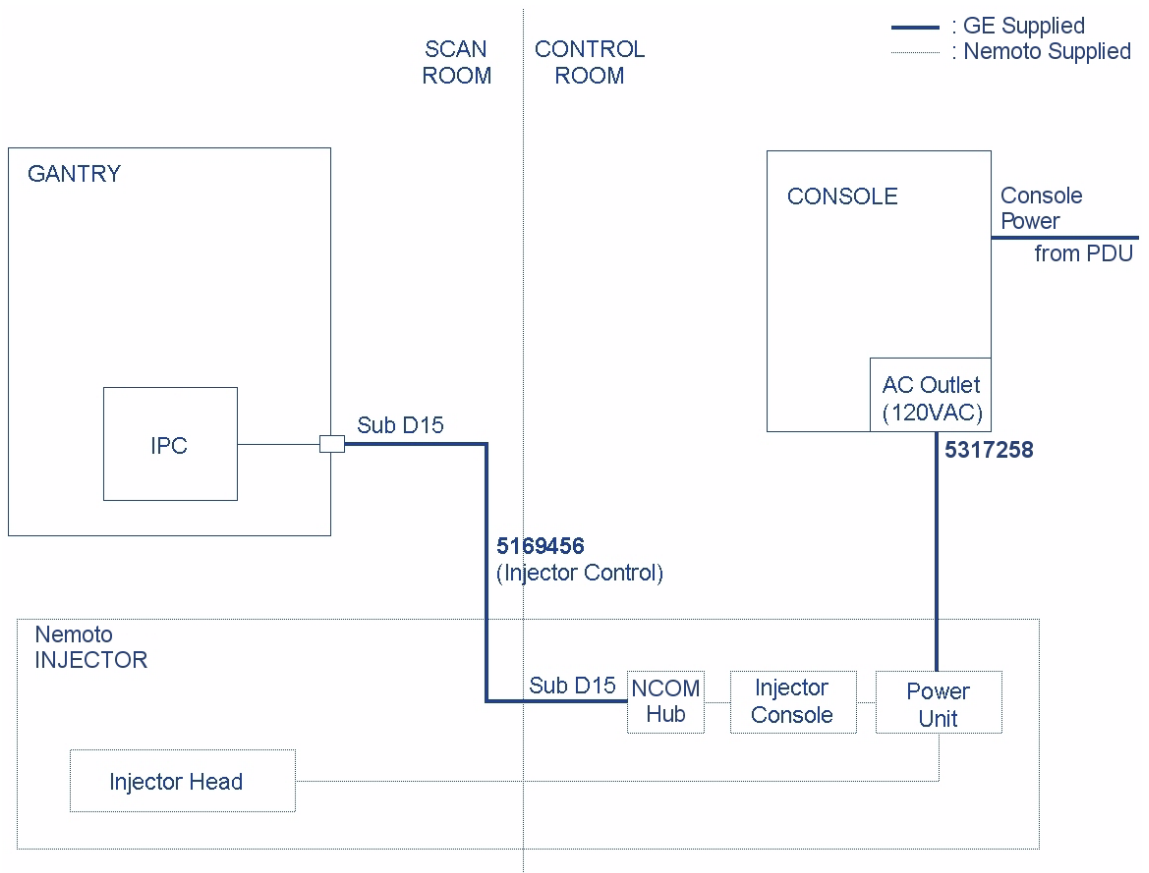
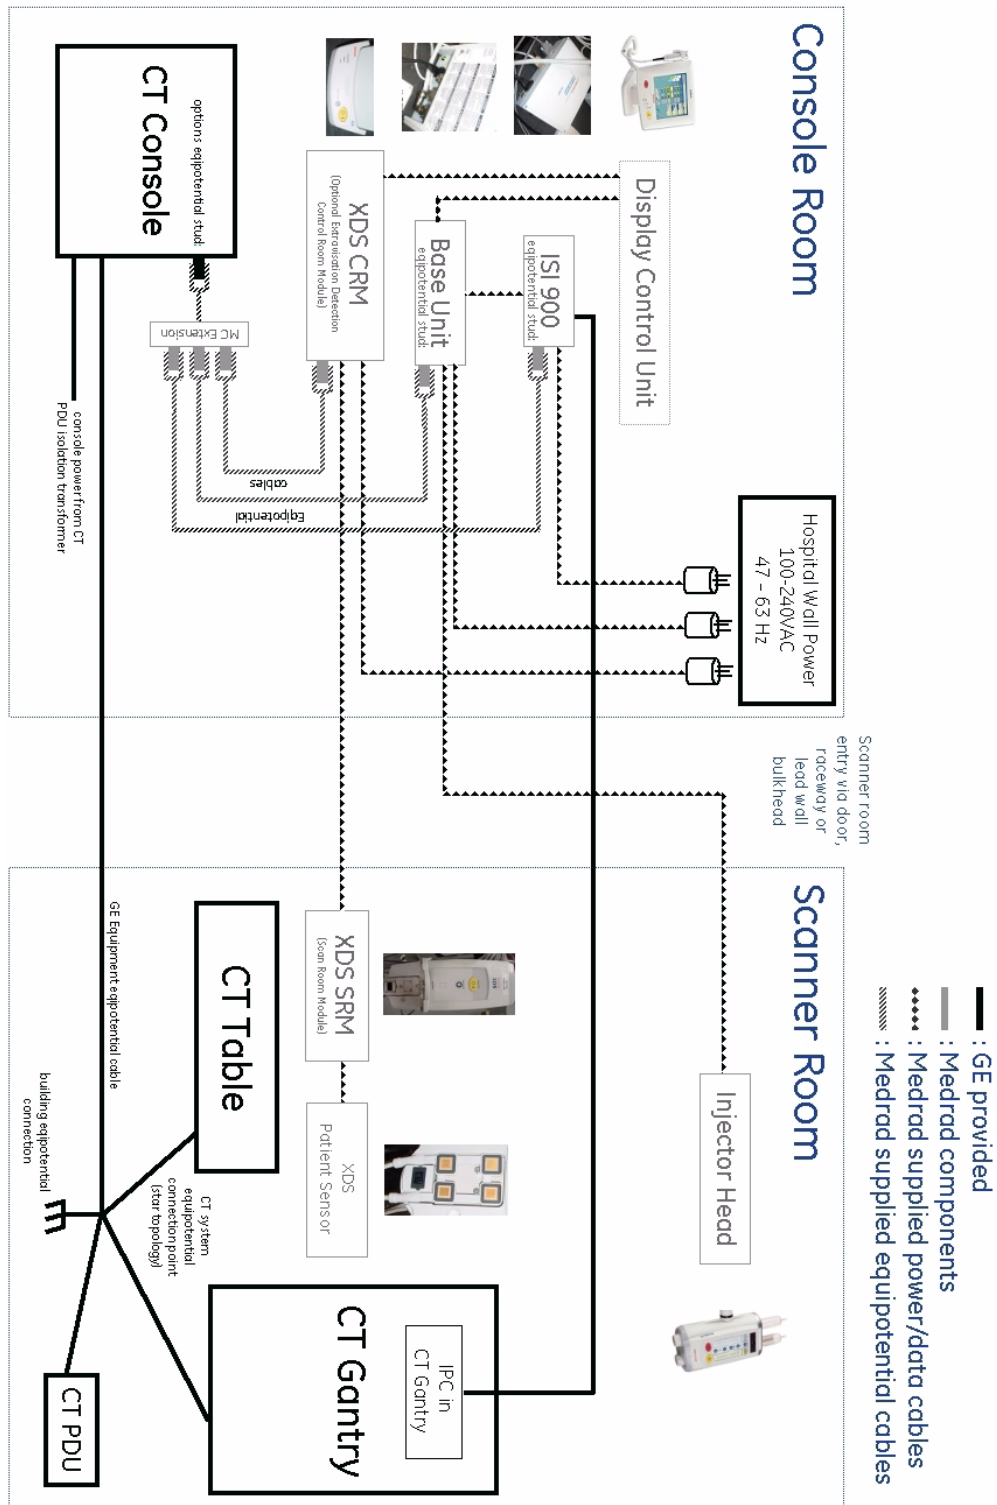

Figure 3-1 Interconnect Diagram
Figure 3-2 MEDRAD Interconnect Diagram
- 1.) Install Injector power cable 5317258 and Sub-D Cable 5169456 according to “Interconnect Diagram” (Figure 3-1 and Figure 3-2).
- To insure operator and patient safety, Medrad requires the use of earth equipotential cables as shown in the diagram (Figure 3-2).